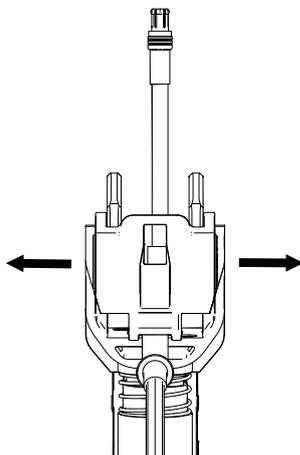
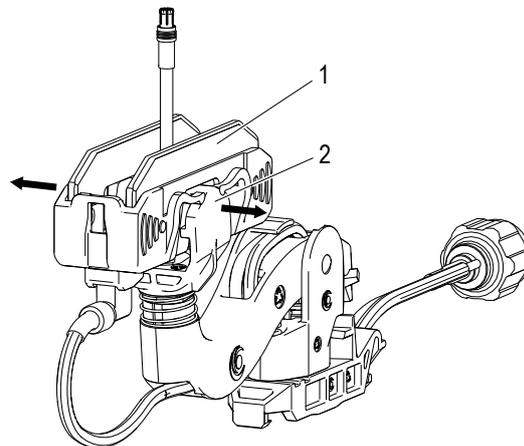

Fig. 152: Disassemble balance incl. sliding contact from joint
Fig. 153: Balance incl. sliding contact (1) and joint (2)
- Disassemble the balance incl. sliding contact (1) from the joint (2) (see Fig. 152 and Fig. 153). If necessary, use a flat-head screwdriver > 3.0.